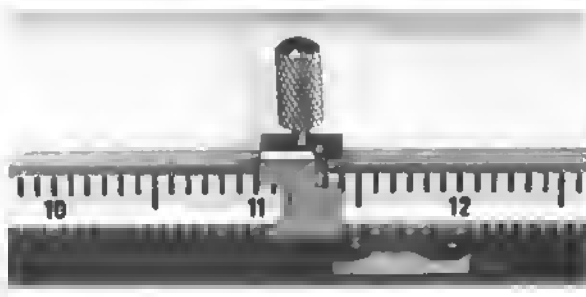

Figure 64
9. Place a cut-off stop on the margin scale as shown in Figure 64, at position located in Step 8 (it will not be the same position as shown in the picture).